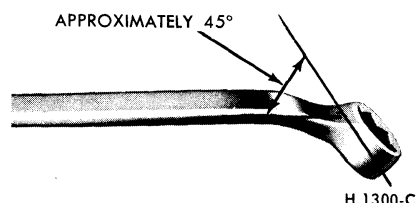

FIG. 11 Wrench for Bleeding Brake Hydraulic System
3. Position a suitable 3/8 inch box wrench (Fig. 11) on the bleeder fitting on the brake wheel cylinder. Attach
4. Position a 3/8 inch box wrench (Fig. 11) on the bleeder fitting on the right rear brake wheel cylinder. Attach a bleeder tube to the bleeder fitting. **The end of the tube should fit snugly around the bleeder fitting.**